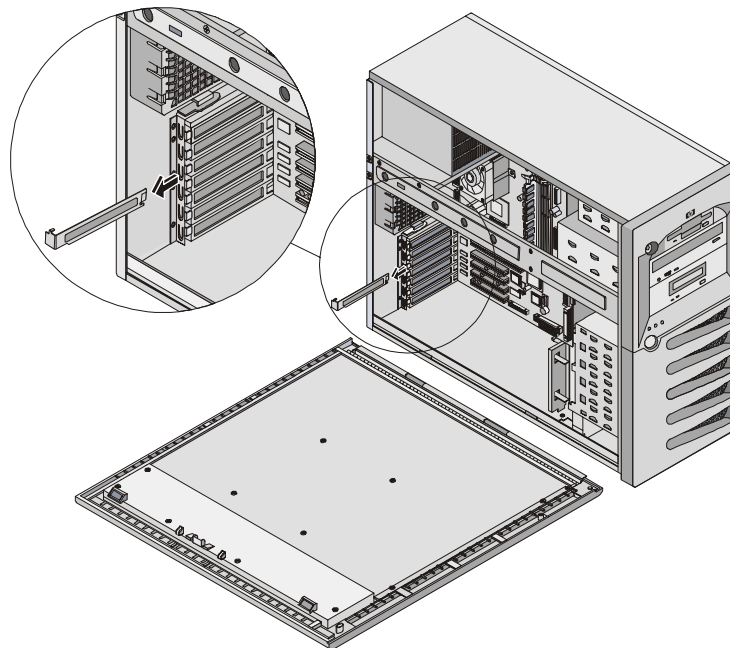

Figure 3-22. Removing Slot Cover
8. Push the PCI slot cover from the rear of the chassis and slide it towards you to remove it. See Figure 3-22.